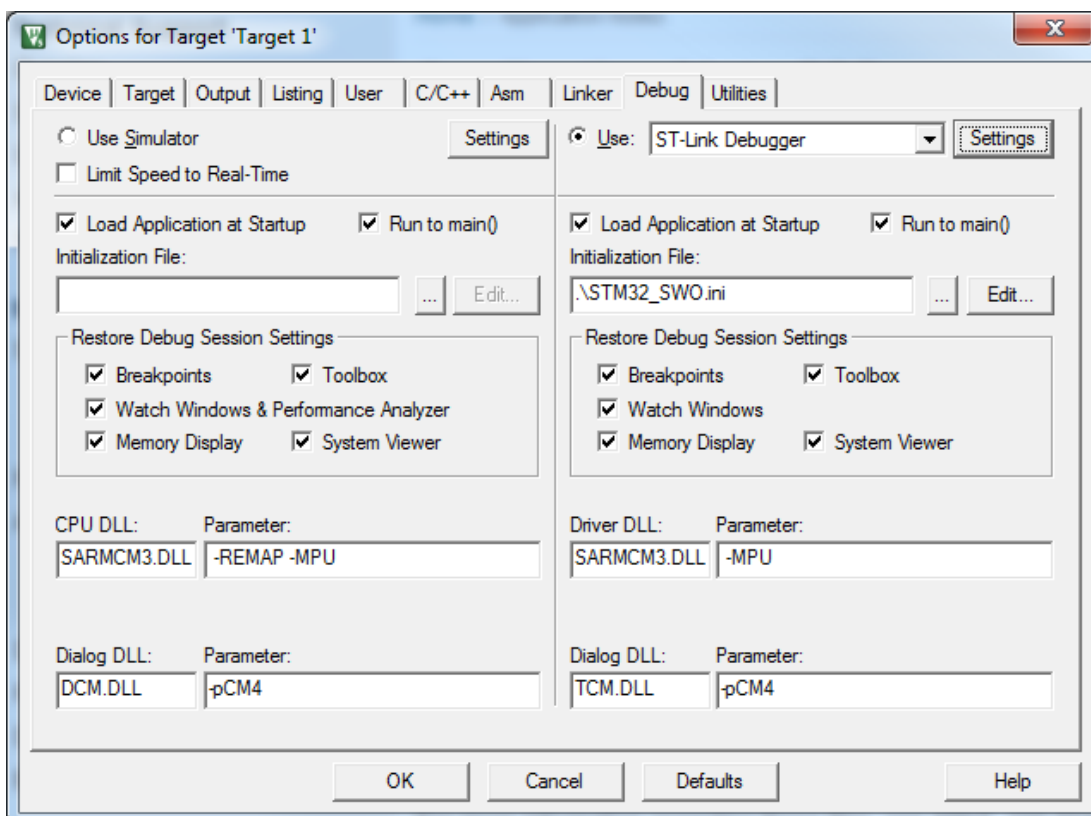

Figure 2. Select Initialization File: STM32\_SWO.ini
2. Copy the information on page 3 of this assignment into a plain text file STM32\_SWO.ini, put that in your project directory, and then on the Debug tab (See Figure 2 on the next page) select this as the debugger Initialization File. (Or, you can add this text to your own debugger initialization file.)